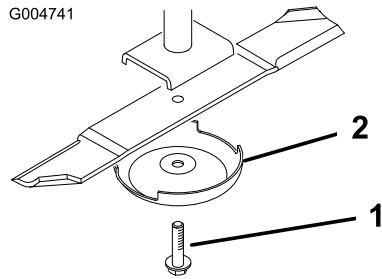

Figure 82
2. Grasp the end of the blade using a rag or thickly padded glove. Remove the blade bolt, anti-scalp cup, and blade from the spindle shaft (Figure 82).